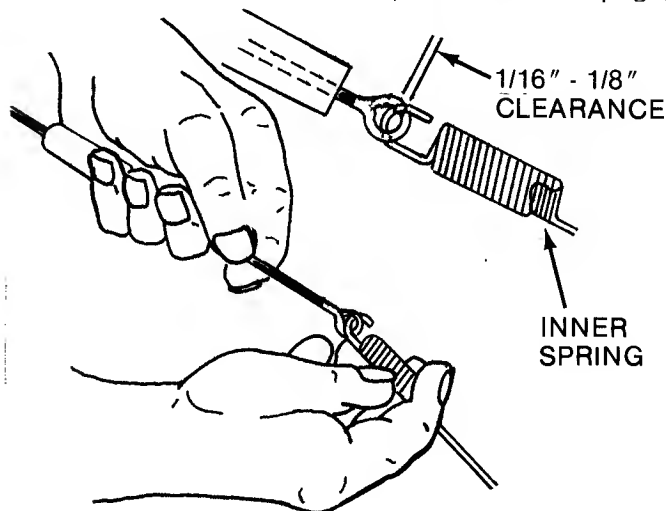

FIG. 15 - CLUTCH LINKAGE ADJUSTMENT
**ADJUSTMENTS:** If excessive pressure is required to hold the wheel drive clutch lever in the engaged or drive position, the clutch cable springs are probably out of adjustment. This is checked with the engine stopped and the clutch handle released. When properly adjusted there should be 1/16" to 1/8" clearance between the inside hook of the spring and inside eye of the push rod as shown in Figure 15. To adjust, unhook and rotate the inner and outer springs in opposite direction, rehook and check clearance. Repeat this procedure until the clearance is correct. If the wheel drive control does not snap back to disengage the drive when the handle is released, check the clip holding the cable to the handle bar for binding. Position this clip about 5" from the upper handle and rotate to best position to allow the rod to slide without interference.